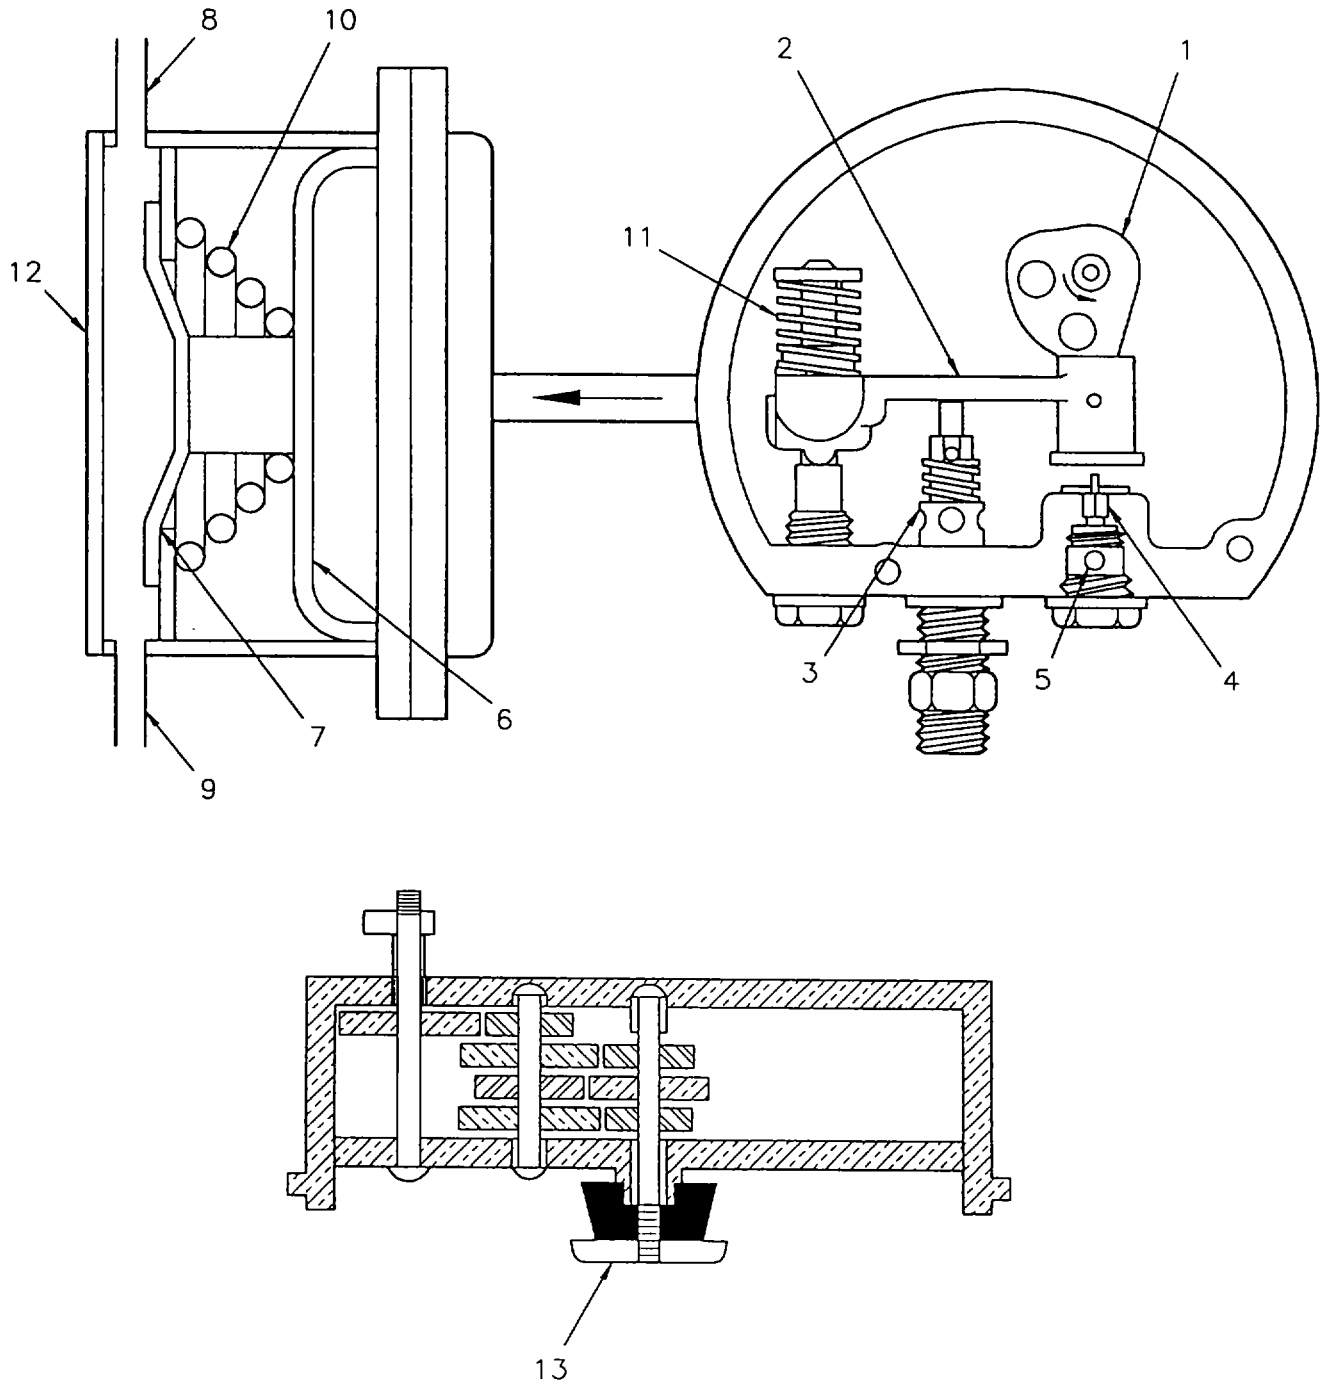

Figure 1-4. Case and Pumper Assembly Operation
- (1) The drive dog (13, Figure 1-4) turns the cam (1).
- (2) When the cam (1) pushes the valve arm (2) completely, the valve arm (2) pushes on valve (4) to open it.
- (3) When valve (4) is open, water from the lower housing assembly flows through the hole (5) and pressurizes the upper housing assembly. This pressurized water passes through a pipe to the pumphead assembly where it pushes on the water side diaphragm (6).
- (4) The pressure overcomes spring (10) pressure pushing the chemical diaphragm (7) which pumps calcium hypochlorite out the discharge valve (8).
- (5) When the cam (1) releases valve arm (2), spring (11) pressure allows ball valve (4) to shut and R-valve (3) to open. The R-valve (3) discharges water to environment relieving water pressure on water side diaphragm (6).
- (6) When water pressure is no longer on water side diaphragm (6), spring pressure pushes diaphragm to original position and pulls chemical side diaphragm (7) away from pump housing (12) causing calcium hypochlorite to be drawn through suction valve (9). The cam (1) continues to turn and repeat this action as long as there is flow through the water meter.